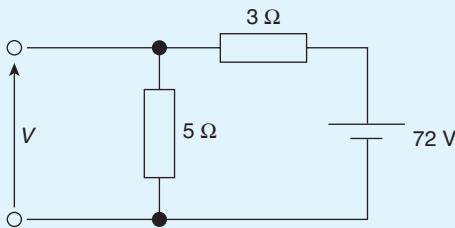

Figure 5.11
- Calculate the value of voltage V in Fig. 5.11 [45 V]